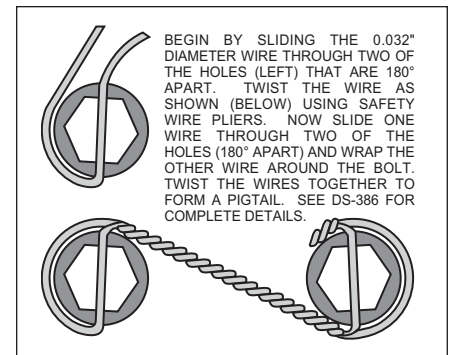

Figure 3. Safety Wire Diagram
•With the larger I.D. side of the rotor (3) facing away from the hat (4), bolt rotor (3) to hat (4) through the backside of the rotor using washers (5) and bolts (6). Torque bolts (6) in an alternating sequence to 85 **in-lb**. Safety wire bolts (6) using standard 0.032 inch diameter stainless steel safety wire as shown in Figure 3. Please refer to Wilwood's data sheet DS-386 (available at [www.wilwood.com/pdf/ds386.pdf](http://www.wilwood.com/pdf/ds386.pdf)) for complete safety wire installation instructions. Slide the rotor/hat assembly onto the spindle. Check to be sure the hat seats squarely against the hub. Install a couple of lug nuts (finger tighten) to keep the rotor/hat assembly in place while continuing with the installation.
•**NOTE:** Please reference the caution statement at the beginning of the assembly instructions. Install spacer (11) and one washer (12) over each pre-installed stud (10) on the radial mount bracket (1). Slide the caliper (7) in place over the studs and rotors, then install the washer (9) and lock nut (8) to hold the caliper in place. The caliper bleed screws should be pointing up. Snug the lock nuts (8) and check that the rotor (3) is centered in the caliper (7). Add or subtract .03" shims (2) as necessary between the caliper mounting bracket (1) and the spindle to center the caliper (7).
•Remove the caliper center bridge pad retainer bolt, nut, and tube from the caliper. Slide the brake pads (13) into place. They should install easily without interference. Check that the outside radius of the brake pad is aligned with the outside diameter radius of the rotor face. Add or subtract shims (12) between the caliper and mount bracket to gain the proper alignment. Reinstall the center bridge pad retainer tube, bolt, and locknut. The locknut should be snug without play in the bolt or tube. Be cautious not to over tighten.
•Once all clearances have been checked, remove the wheel, caliper, hat, and rotor from the spindle and hub. Secure the caliper mounting bracket (1) to the spindle with original stock bolt using red *Loctite*® 271. Torque the bolts to manufacturers specifications. Reinstall the hat and rotor assembly and again use lug nuts to hold it in place. Lubricate caliper mounting studs and nuts with lightweight oil, reinstall the caliper, torque the caliper nuts (8) to 30-35 ft-lb.